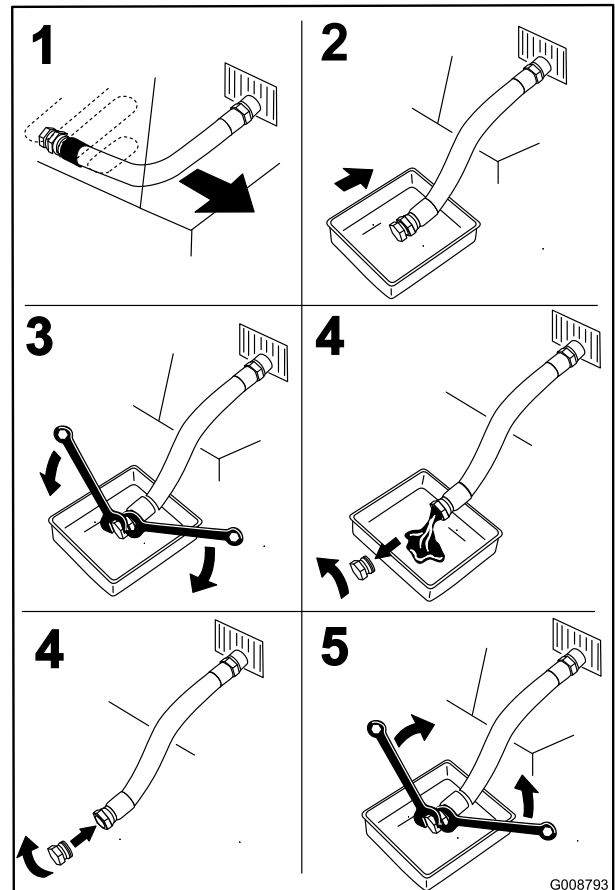

Figure 51
3. Stop the engine, remove the key, and wait for all moving parts to stop before leaving the operating position (Figure 51).